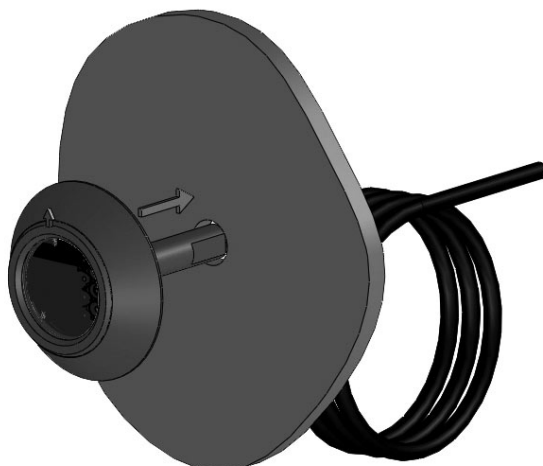

Fig.6.2
2. Insert the light body into the hull, feeding the stem through first and seat into place. Press the light hard into the hull and twist slightly to spread the sealant around behind the light to ensure good adhesion. (See Fig.6.2).